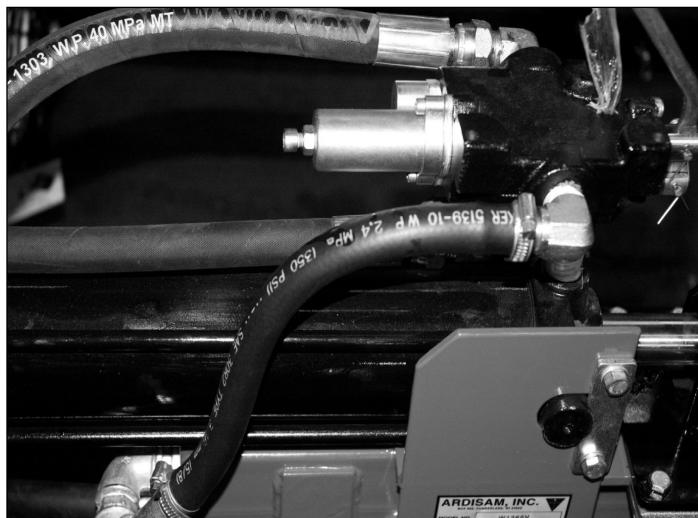

Figure 23
6. Install hydraulic return line. Tighten with hose clamps. **SEE FIGURE 23.**